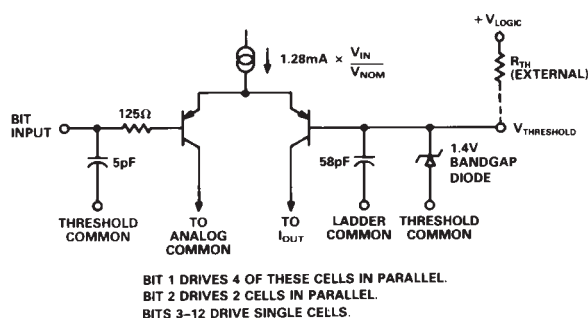

Figure 6. Equivalent Digital Input
(see Figure 6). The digital bit inputs operate with small input currents to easily interface to unbuffered CMOS logic. The digital input signals to the DAC should be isolated from the analog input and output as much as possible. To minimize undershoot, ringing, and digital feedthrough noise, the interconnect distance to the DAC inputs should be kept as short as possible. Termination resistors may improve performance if the digital lines become too long. The digital inputs should be free from large glitches and ringing and have 10% to 90% rise and fall times on the order of 5 ns.
**THCOM** - is the ground point for the bandgap diode that generates the threshold voltage. The current coming out of this node is the same as that flowing into VTH plus a code dependent number of base currents (see Figure 6). It is possible to introduce an offset between THCOM and the system common, thereby offsetting the effective logic threshold and positive output compliance voltage.
**VTH** - as indicated earlier, if given sufficient positive bias current, this voltage will be 1.4 V above THCOM. The necessary bias current can readily be provided by a suitable resistor to any positive supply. As Figure 6 suggests, this node is directly coupled to the DAC output through several base to collector capacitances and hence, should be carefully decoupled to the analog ground.